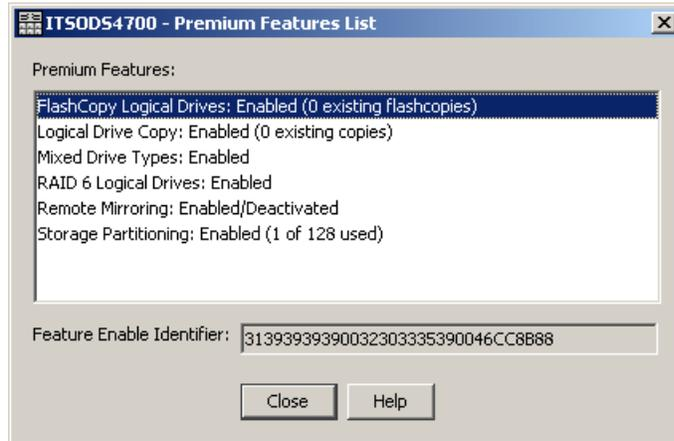

Figure 12-27 Listing premium features
1. Select **Storage Subsystem** → **Premium Features** → **List** from the Subsystem Management window, or select **Premium Features** → **List** from the pop-up menu. As a result, the Premium Features dialog is displayed with a list of enabled premium features (Figure 12-27).
2. From the Subsystem Management window, select either the **Storage Subsystem** → **Premium Features** → **List** pull-down menu option or **Premium Features** → **List** from the right-click pop-up menu (Figure 12-27 on page 690).